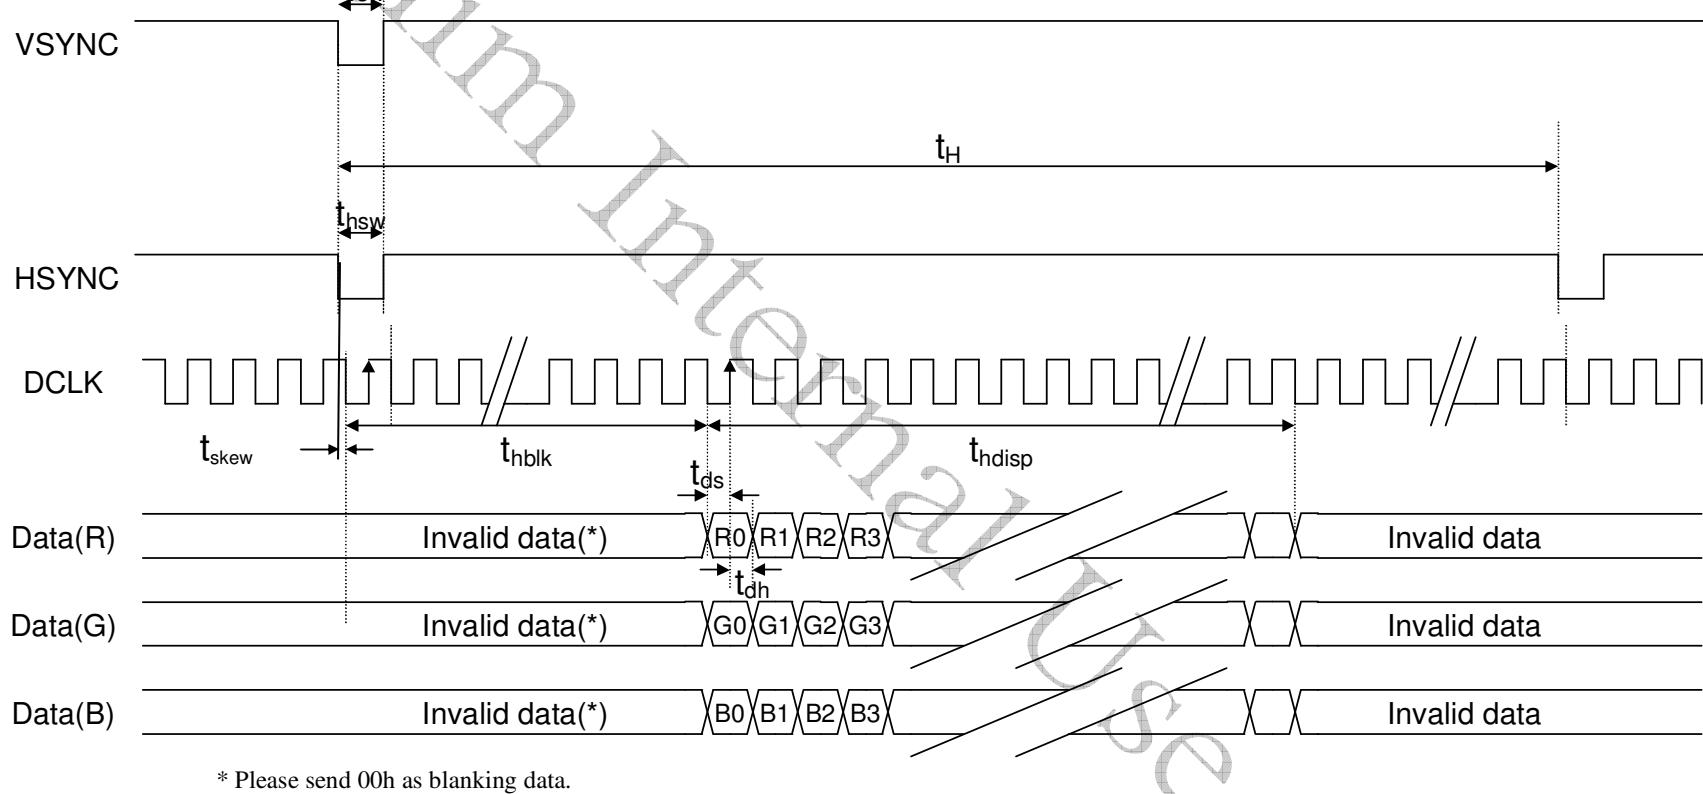
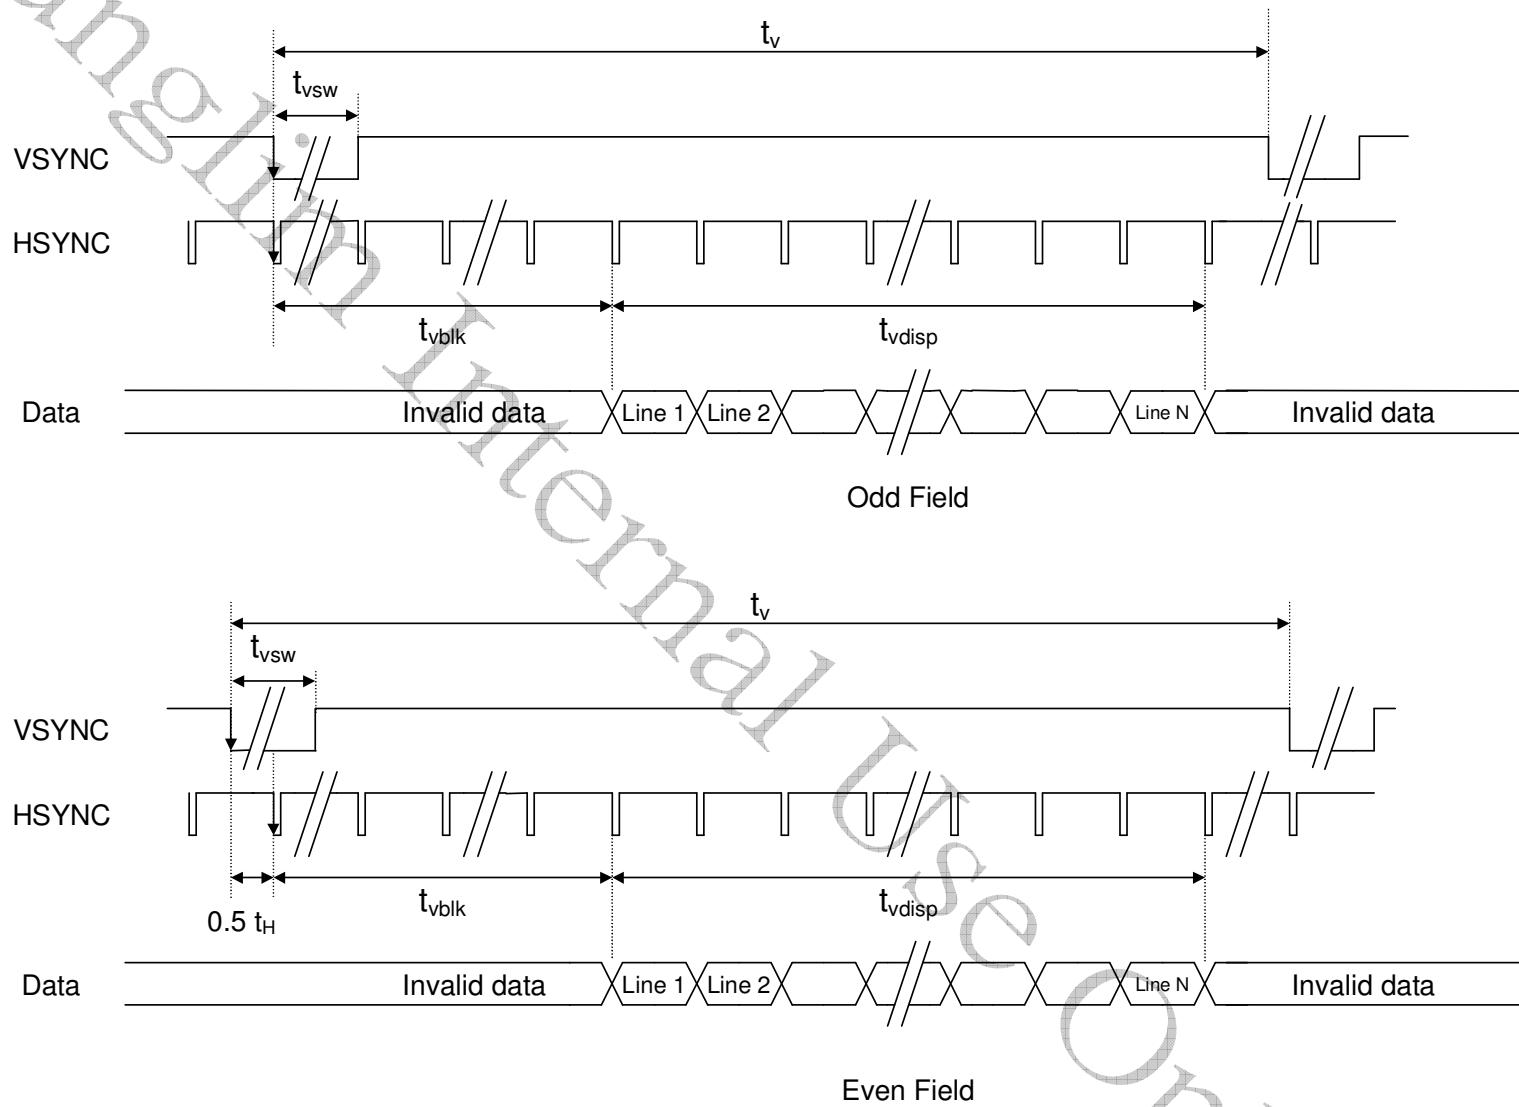

Fig. 1 RGB666 Input Horizontal Signal
Fig. 2 RGB666 Input Vertical Signal
a. RGB666 (320 mode/NTSC) timing specifications (refer to Fig. 1, Fig. 2)
Note 1: The falling edge of Hsync should be aligned to the falling edge of DCLK. The timing tolerance is 5ns. For detail timing illustration, please refer to Fig. 1.